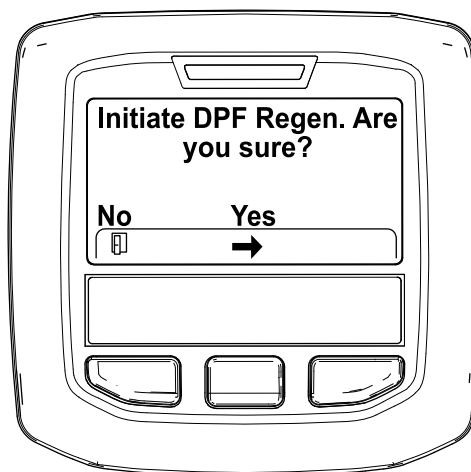

Figure 34
4. When the "Initiate DPF Regen. Are you sure?" message displays, press the center button (Figure 34).